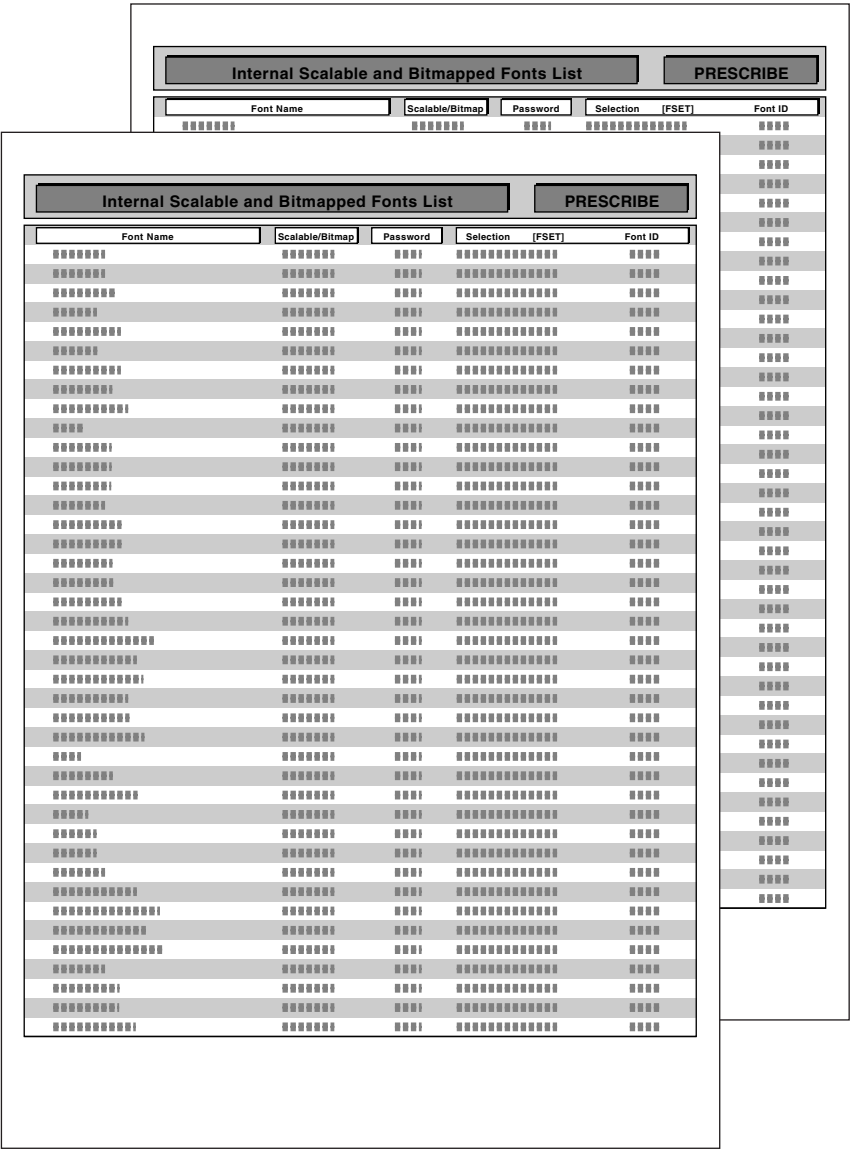

Figure 3-8
To help you decide in selecting a font, you can printout lists of the internal fonts or the optional fonts including downloaded fonts. Samples for font lists are shown in *Figure 3-8 on page 3-57*.
**6** Press the **ENTER** key again. Processing appears, then Ready. The printer prints out a list of fonts with a sample and font ID (number) for each of them. Sample lists of fonts are shown in *Figure 3-8* on the next page.